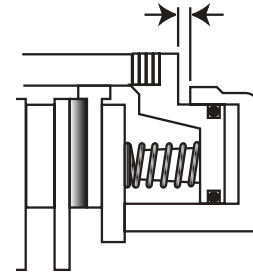

Figure 8
**NOTE:** Friction Facings (Item 3) must be replaced when the gap between the Cylinder (Item 5) and Piston (Item 6) is approximately 1/32" [0.794 mm] after the Friction Facing wear adjustment has been made (See Figure 8).